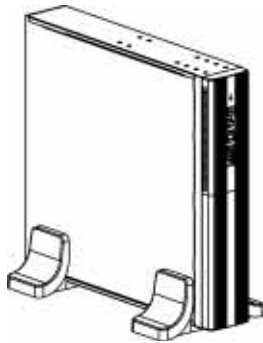

Fig. 4: UPS Tower Set Up
2. Place the UPS between feet as shown in Figure 4.